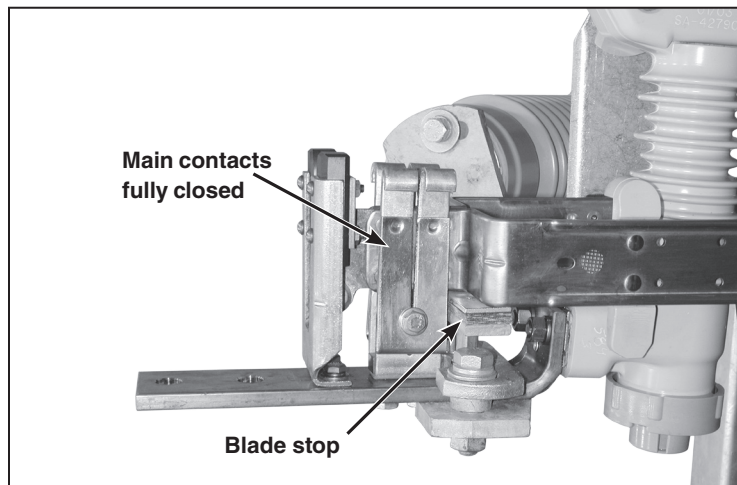

Figure 39. Checking that blade is fully closed.
- (a) With the operating handle as far as it will go in the closing direction, all main contacts of the interrupter switch are fully closed with the blades against their blade stops. See Figure 39.